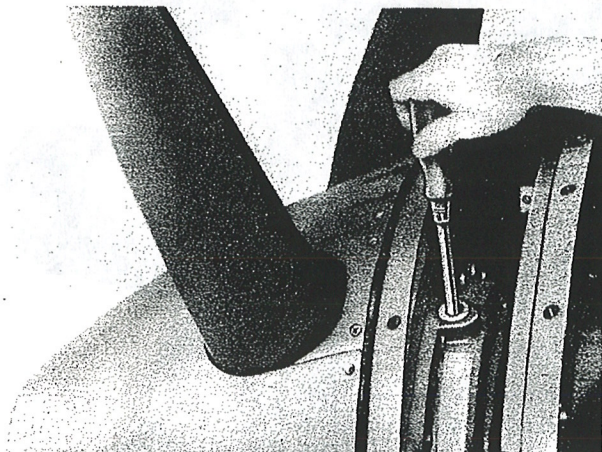

Figure 39—Adjusting the Governor
(1) Turn the propeller by hand until the regulator filler plug is above the horizontal center line. This will prevent fluid from spilling out of the regulator when the plug is removed.
(2) Remove the filler plug and insert a screw driver in the governor adjusting screw. (See figure 39.)